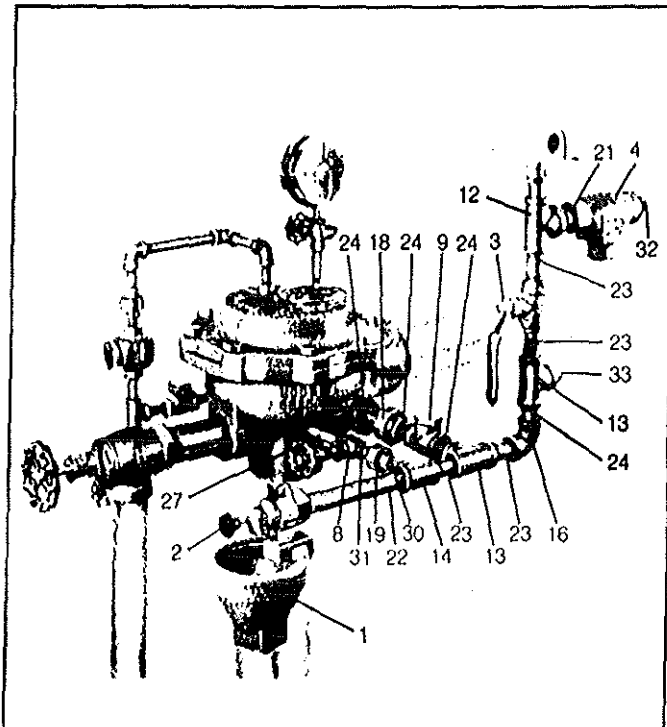

Figure 5
Refer to Figures 5 and 6
4. Continue to assemble the alarm-test trim as shown by Figure 5.